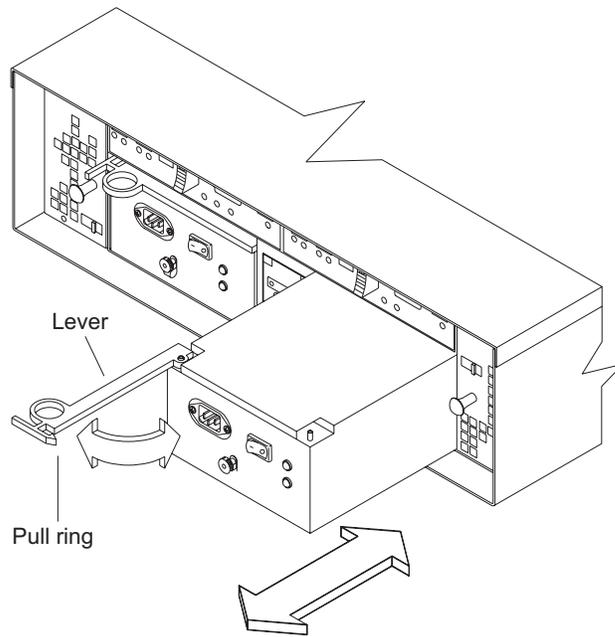

Figure 24. Replacing a power supply
1. Slide one power supply into the expansion enclosure. Be sure to replace the power supplies so that the lever on each power supply opens toward the interior of the expansion enclosure, as shown in Figure 24 on page 43.
**Attention:** Be sure that the lever is pulled straight out as you slide the power supply into the expansion enclosure, as shown in Figure 24 on page 43.